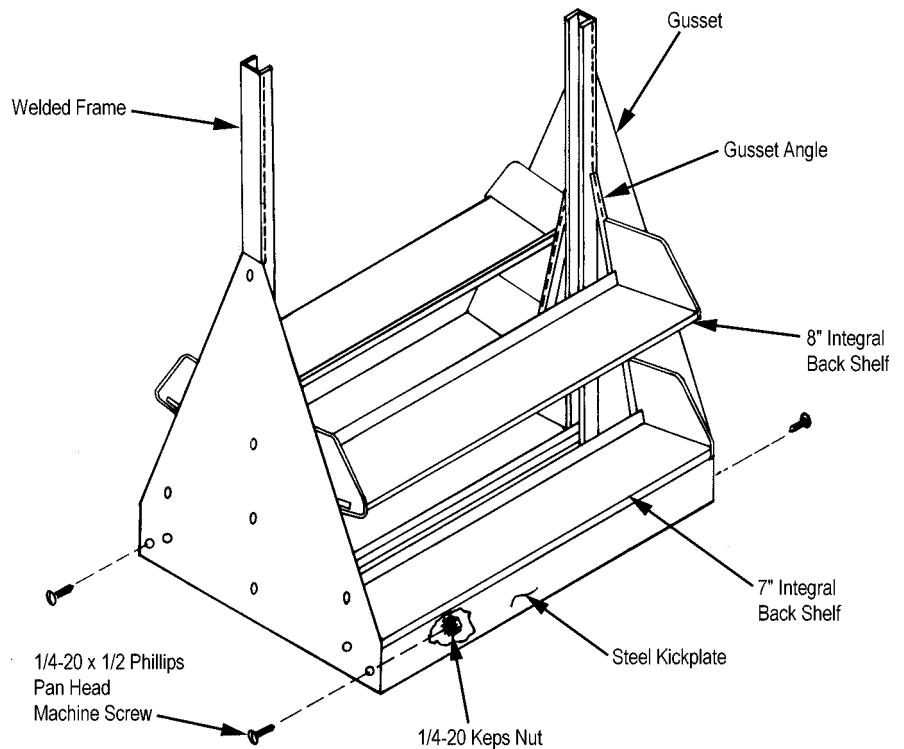

FIGURE 40
2. Attach steel kickplate to gussets with 1/4-20 x 1/2 Phillips pan head machine screws. See Figure 40. Attach adjacent kickplates through gussets with common screws.
3. Install a 7" actual depth integral back shelf at the base and into slots of gusset angle. Add an 8" actual depth shelf 12" above the base shelf. See Figure 40.